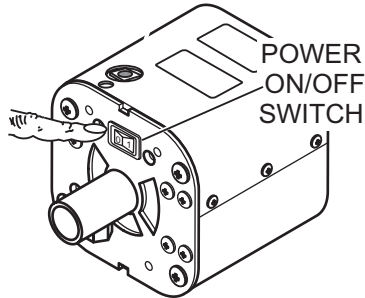

Figure 26. ON/OFF Switch
1. Before applying power, make sure that the Power **ON/OFF** switch (Figure 26) is in the **OFF** position.
4. Turn on the Power **ON/OFF** switch (Figure 26). The balloon will start to inflate and the lamp will turn on.